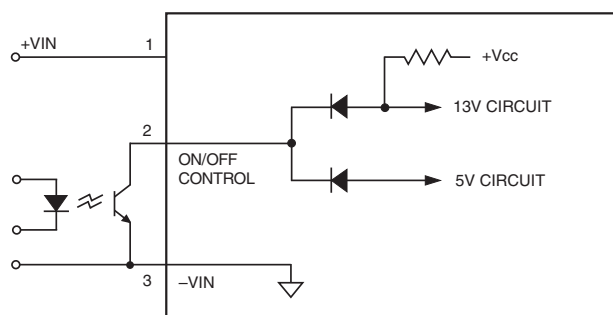

Figure 8. Driving the Negative Logic On/Off Control Pin (simplified circuit)
**Positive** (no suffix) logic models are enabled when pin 2 is left open (or is pulled high, applying +3.5V to +13.5V with respect to –Input, pin 1) as per Figure 8. Positive-logic devices are disabled when pin 2 is pulled low (0 to 0.8V with respect to –Input).